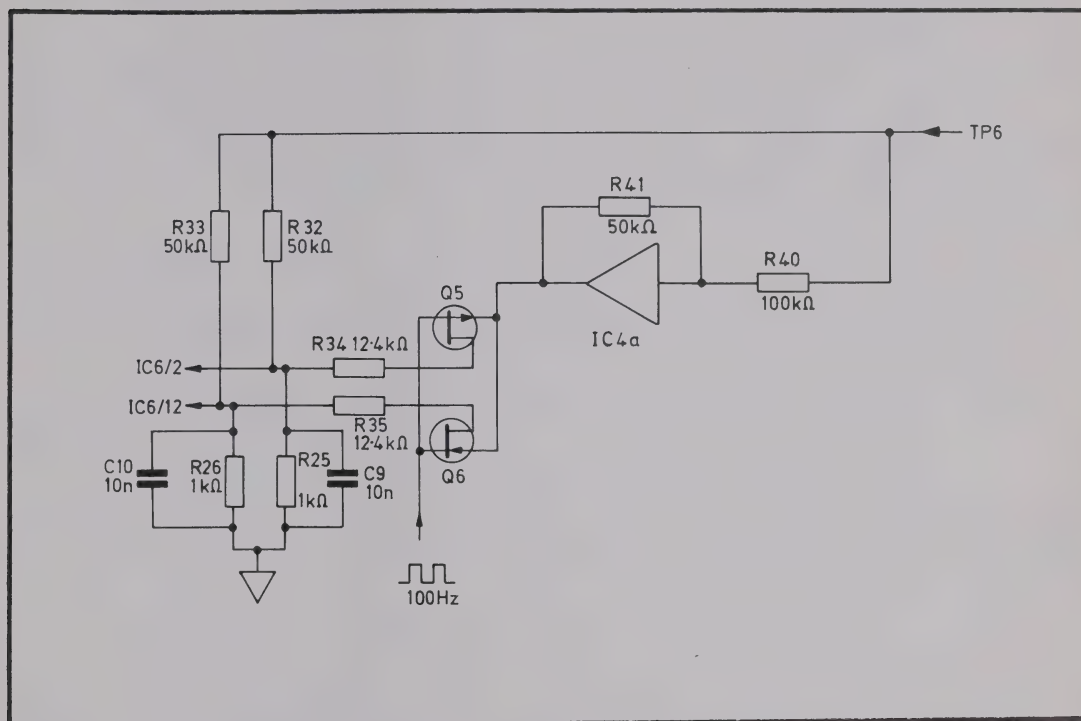

Fig. 5.5 Feedback Switching
- 5.3.2.5.7 The output of IC4d is fed back to the input of the multiplier at IC6/2 and IC6/12. The feedback circuit is shown in Fig. 5.5.